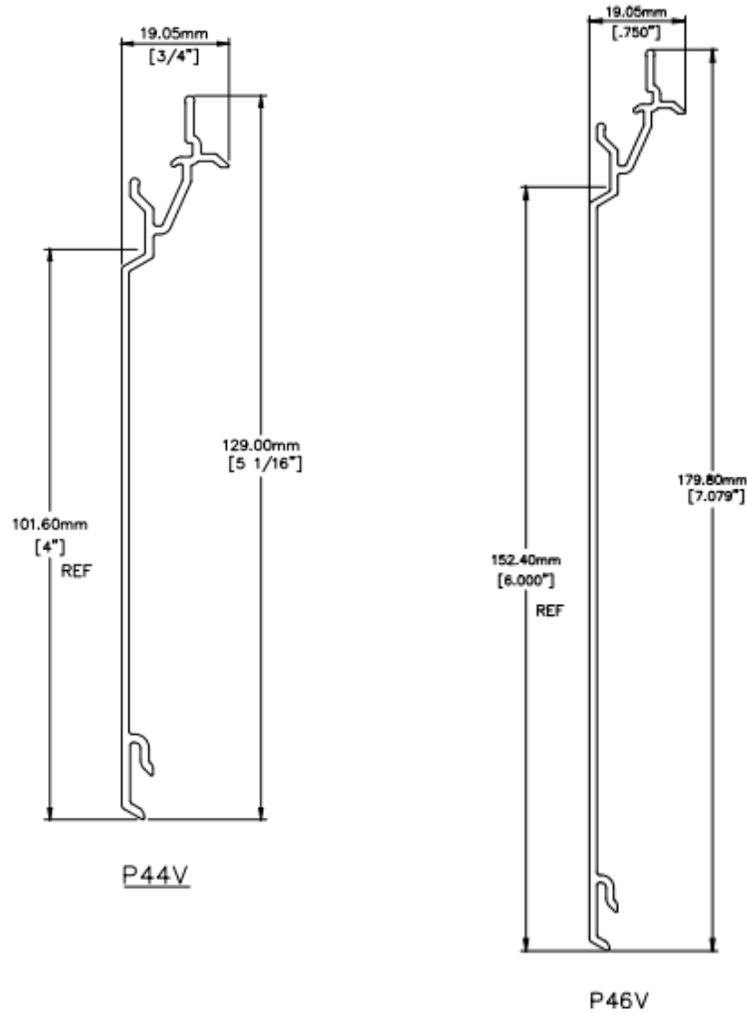

FIGURE 1 – PLANK DIMENSIONS
3.1 Fastplank Siding System: Fastplank Systems are exterior wall coverings consisting of aluminum siding planks, fastening clips and trim accessories. The coated aluminum 16 ft. planks are extruded from 3/64 in. thick aluminum with a V-Notch™ profile. The planks are manufactured in 4 in. and 6 in. See Figure 1 for panel dimensions.